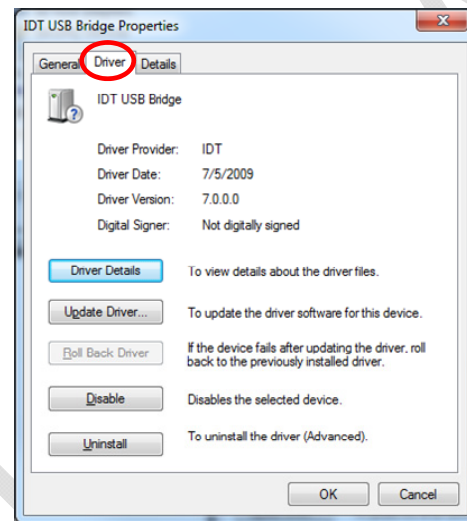
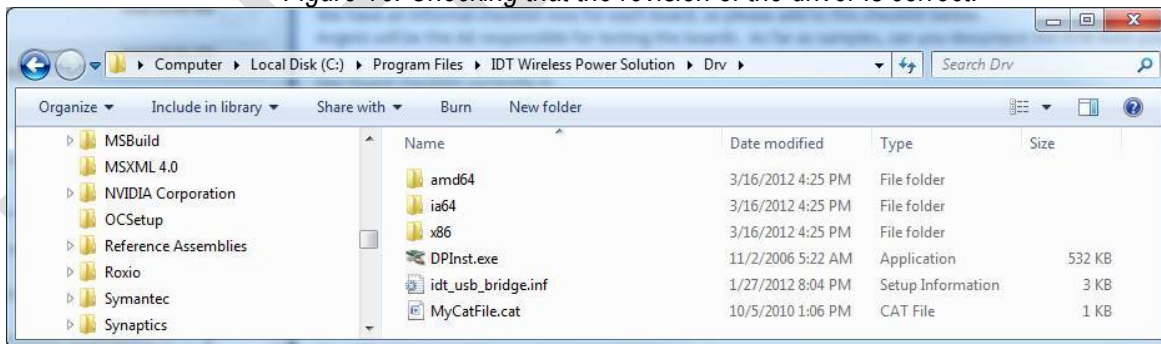

Figure 16. Checking that the revision of the driver is correct.
Figure 17. Installed Device Driver Directory.
5. **Update the Driver.** If you have a previous version of the eval tool, the driver will probably need to be updated. The way to check on the version of the driver is to open up the Device Manager as shown in Figure 14. Expand the USB Bridge Devices and double click on it. Click on the Driver Tab, and be sure its' Driver Date is 7/5/2009 and Version is 7.0.0.0. See Figure 16. If it is not version 7.0.0.0 then go to directory C:\Program Files\IDT Wireless Power Solution\Drv as shown in Figure 17 and double click the DPlnst.exe file. The system will then go through a driver update install. Be sure to reboot your machine once the install is complete.